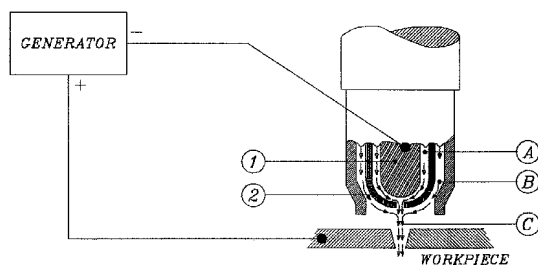

Fig. 6 Functional diagram of a first-generation torch
Initially, for plasma cutting, a torch was used with a front end structure as in Fig.6 and two types of gas: a first one for the formation of the plasma (A) that passes between the electrode (1) and nozzle (2) and is forced to exit in an ionized form through the hole, and a second one (B), that acts to cool the torch and further thins out the dimensions of the plasma arc, which at its centre (C), easily manages to reach the temperature of 10.000°C.